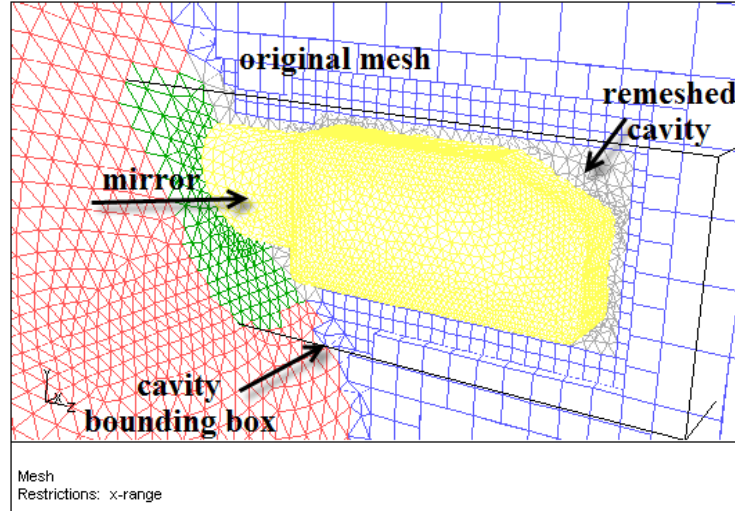

Figure 8.19: Cavity Remeshed With Tetrahedral Cells
10. Display the original mesh along with the remeshed cavity (Figure 8.19).